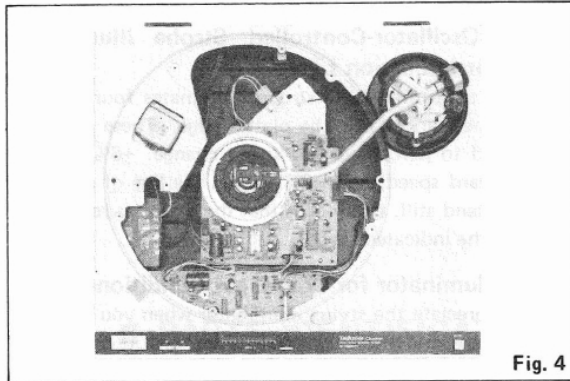

Fig. 4
10. To remove the main base ass'y from the bottom base ass'y, turn cueing lever upward and move tone arm towards center of spindle. The main base ass'y can be lifted up easily. (See fig. 4, 5 and 6.)